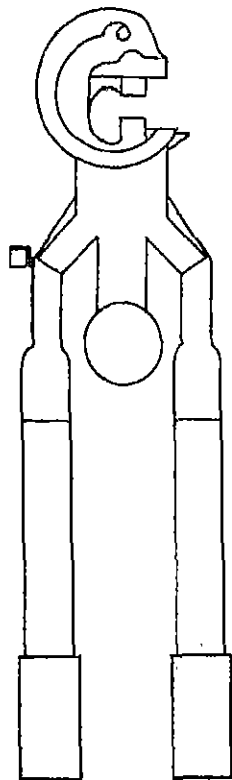

Fig. 18.2 Hand operated Hydraulic Compression Tool Press
- (ii) Hand operated hydraulic press compression tool (Fig. 18.2)